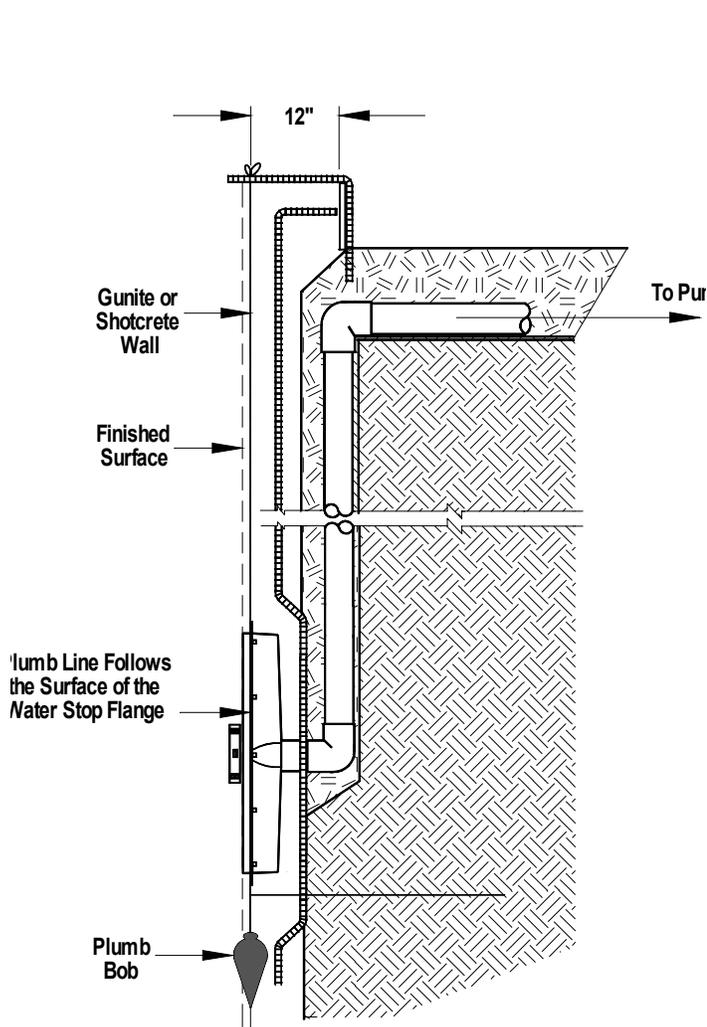

**Figure 1**
1. The side wall Channel Drain should be located in the wall at the deepest part of the pool and mid-way down that wall. The bottom of the 90° Ell that feeds the drain must be a minimum of 18 inches above the top of any cove (see Figure 1), and the upper edge of the drain sump must be placed at least 12 inches below the bond beam form.
2. Dig a niche down the wall of the pool at the desired location of the Channel Drain. The niche must be at least 12 inches wide and the back of the niche must be 12 inches to 14 inches from the final finish surface of the pool (see Figure 1).
3. To determine the correct depth of the niche, drop a plumb line 12" from the front of the bond beam form. This line will represent the gunite or shotcrete wall surface. (See Figure 1 that illustrates a plumb line tied to a rebar bent and extending over the bond beam form.)